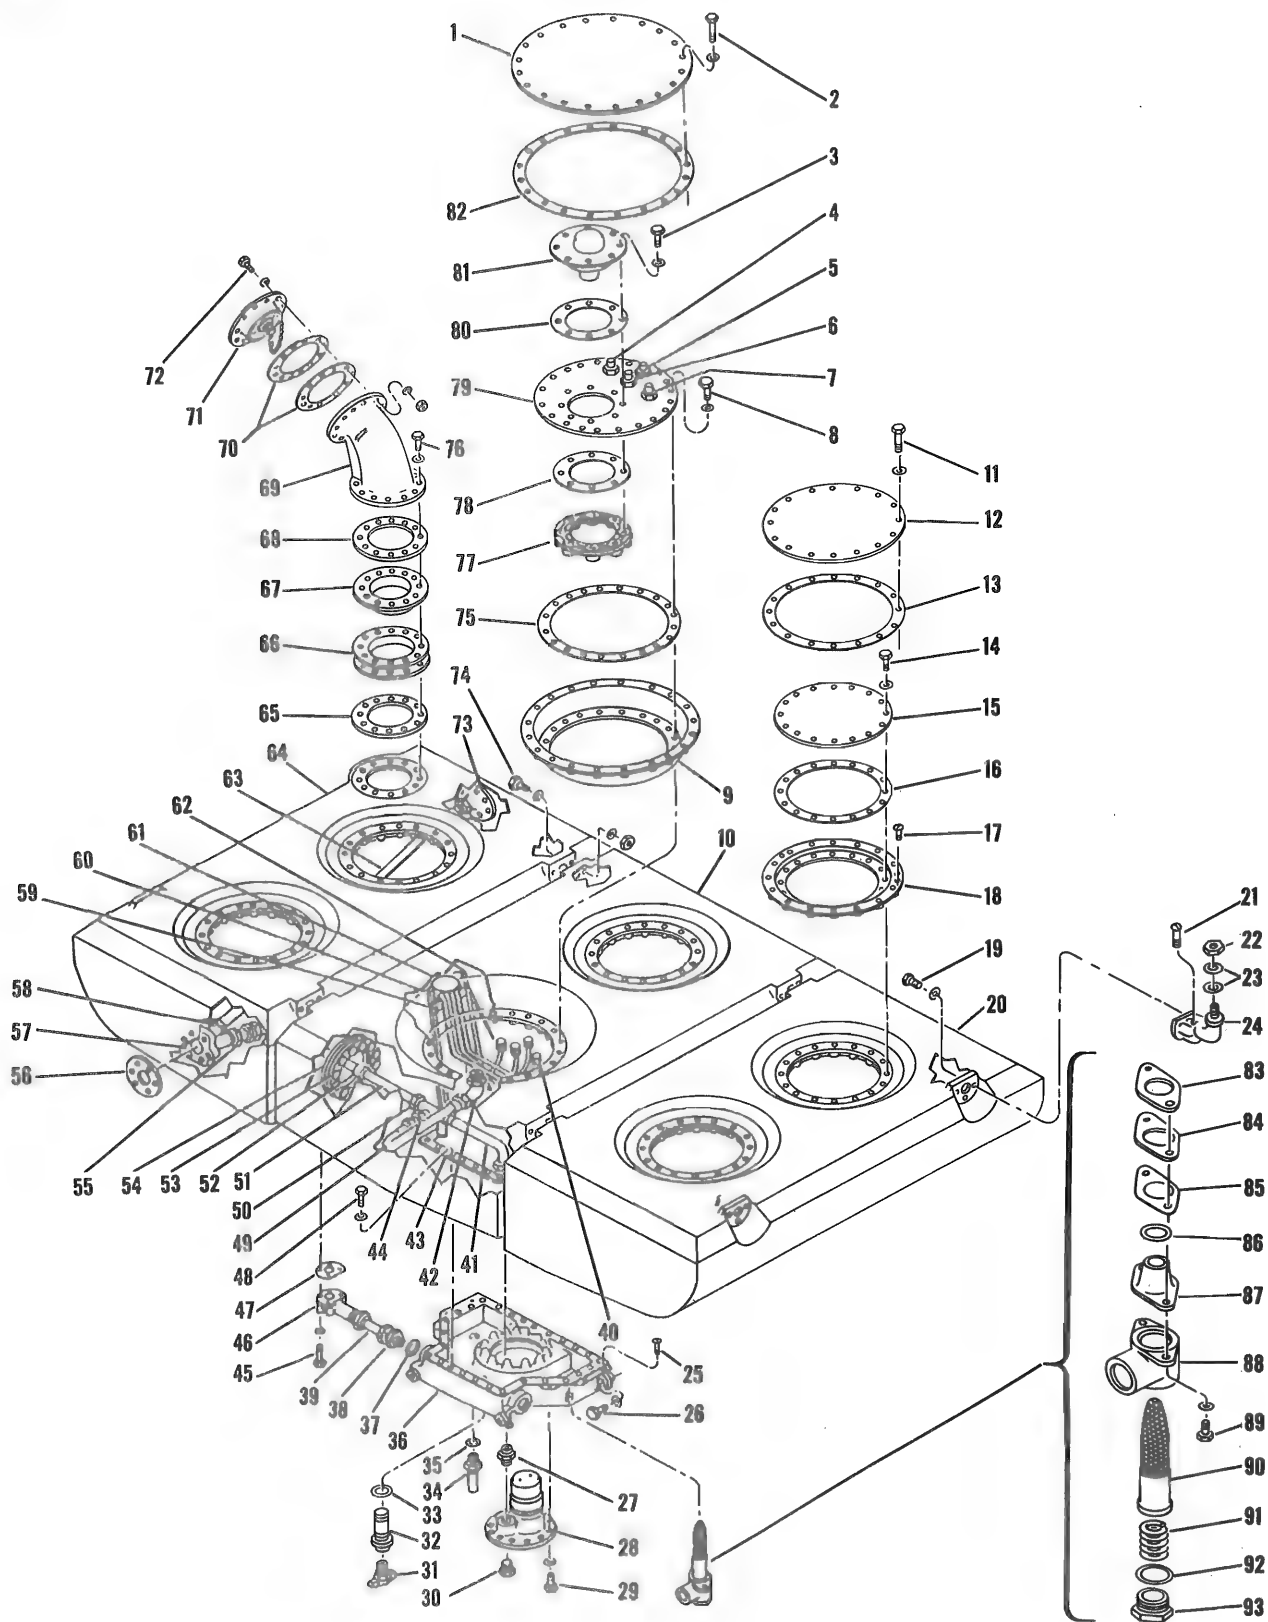

Figure 3-78. Center Fuel Tank (Sheet 1 of 2)
c. Remove bolts and washers (11, figure 3-78) securing each access cover (12) to cabin floor. Remove each cover and gasket (13).
d. Remove bolts and washers (14) securing each cell cover (15) to support (18). Remove each cover and gasket (16).
e. Remove screw, washers, and nut from bracket clamp (52) around short transfer pump tube (51) at interconnecting hole in right cell (64).
f. Disconnect short transfer pump tube (51) from check valve and gasket (55) at front of right cell (64) and from tee (50) in center cell (10). Remove tube.